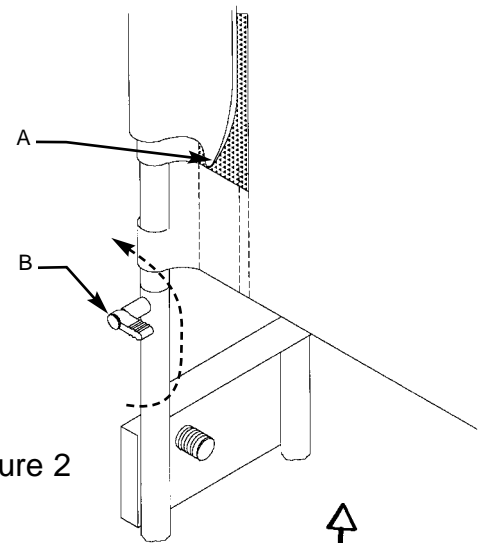

Figure 2
- 2 Release the Velcro flaps (A) retaining each skirt guard. Remove the backrest by rotating lever (B) on each side to point upwards and lift the back rest upwards until it becomes detached from the wheelchair (see FIG 2).